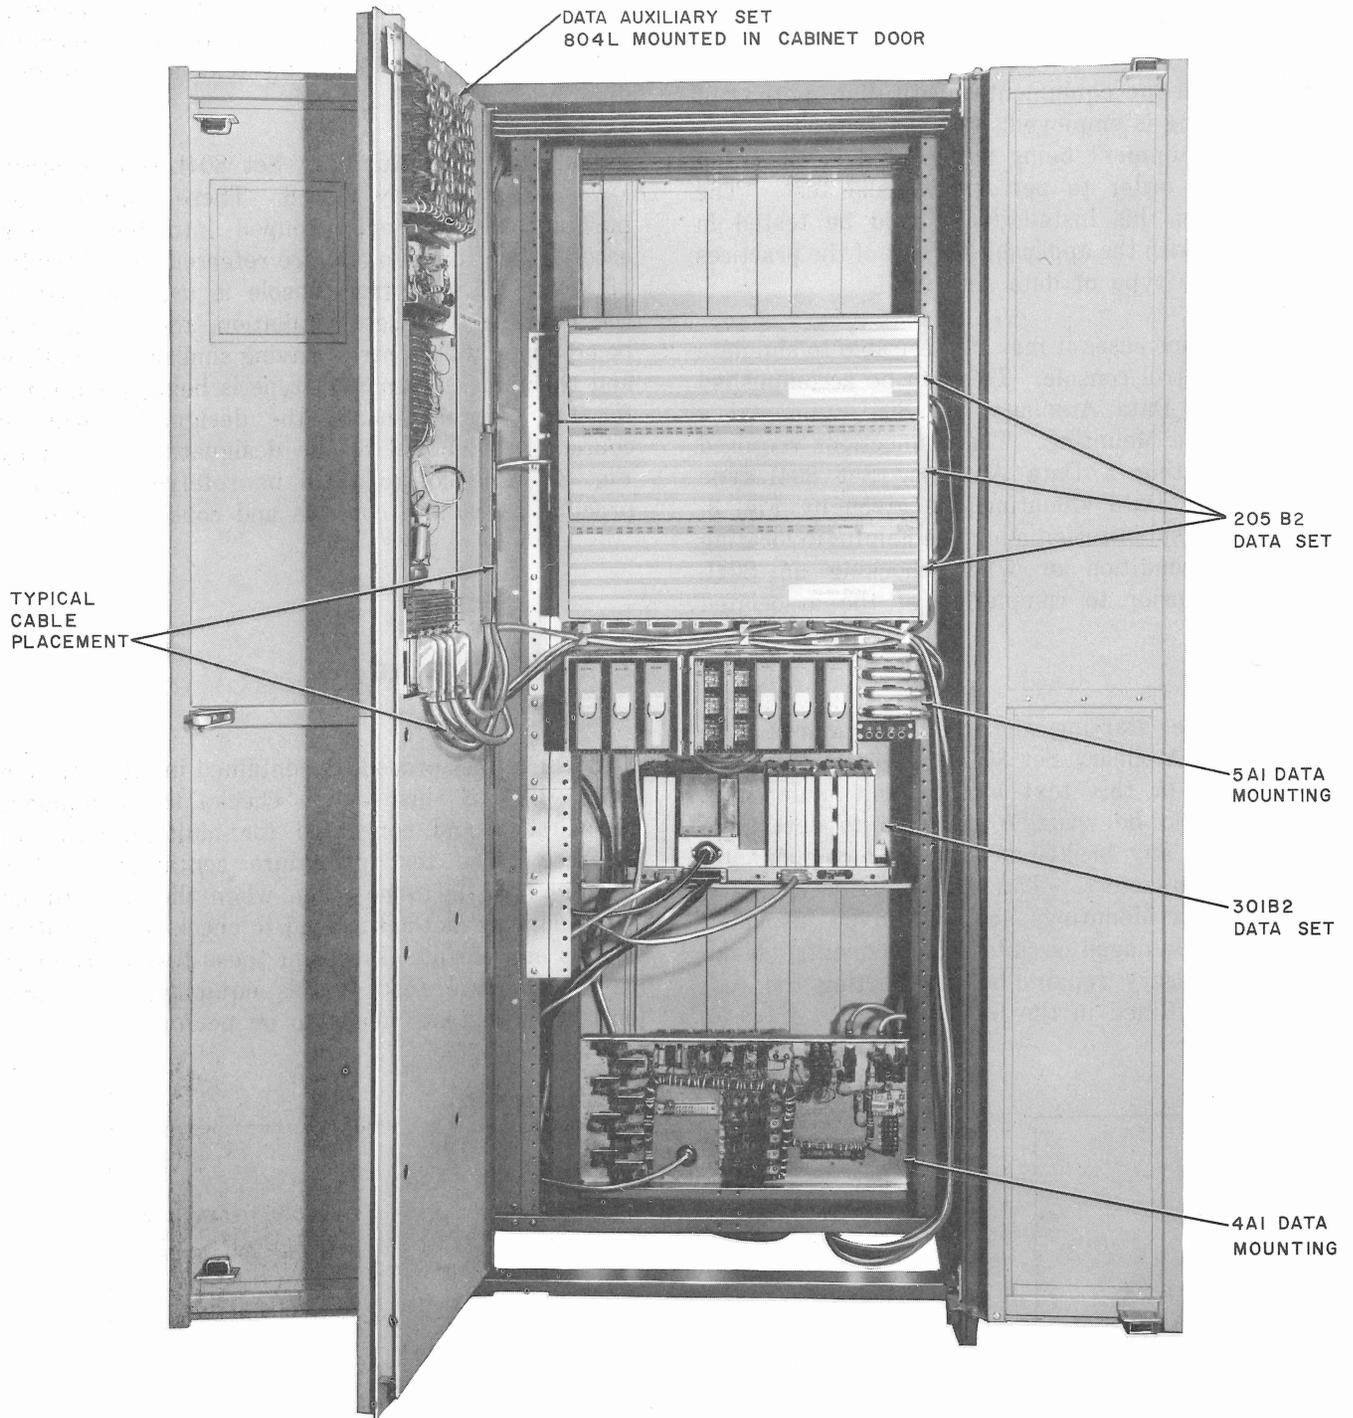

Fig. 2—Typical Multiple Data Set Installation in a KS-20093 L1 Cabinet
**1.08** The data mountings are mounted inside the KS-20093 L1 cabinet. A typical installation is shown by Fig. 2.